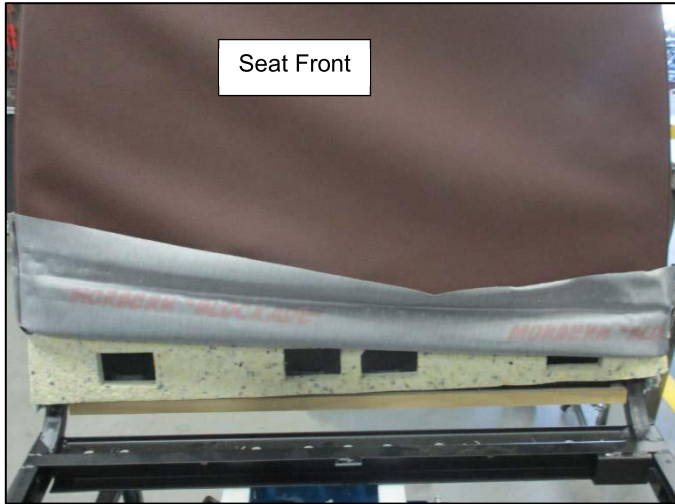

Figure 4: Cushion and Vinyl Cover (Seat Front)
7. Pull or roll the vinyl cover up on the front of the seat. See **Figure 4**.